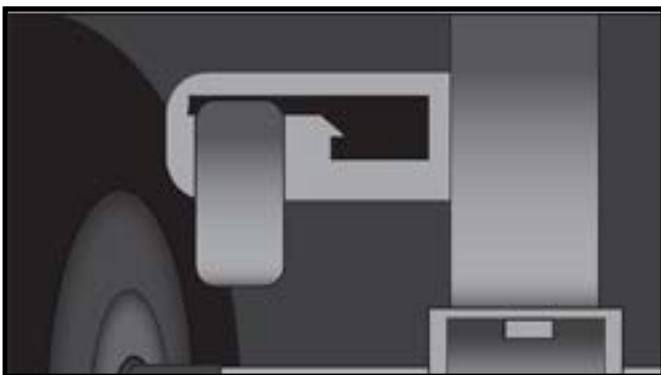

Figure 23: Second-Generation Cart Brake Lever Position for Drive System Operation
**Note:** Second-generation model X-System carts (those with a black top) have a different brake lever than first-generation carts (those with a silver top). See Figure 23 and Figure 24 below.